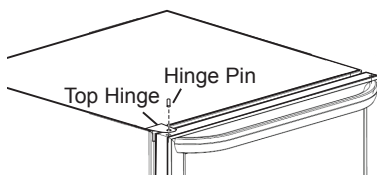

Figure 9
9. Place bottom left hand corner of door onto lower hinge then tilt top of door back to clear edge of top hinge. Make sure door is level and it seals properly against cabinet then insert hinge pin through hole in top hinge and into door busing. Securely fasten with Phillips screwdriver. (See Figure 9.)